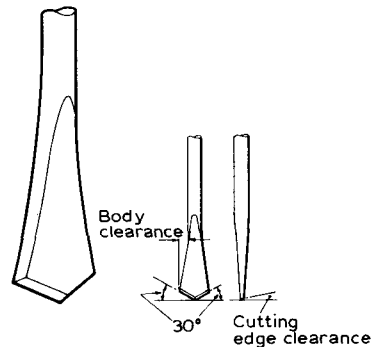

Fig. 4.76 The flat drill
1. *The flat drill*, Fig. 4.76, is easy to make. As with the twist drill the two cutting edges and angles must be alike. It is necessary to use a great deal of pressure to force the drill into the work.